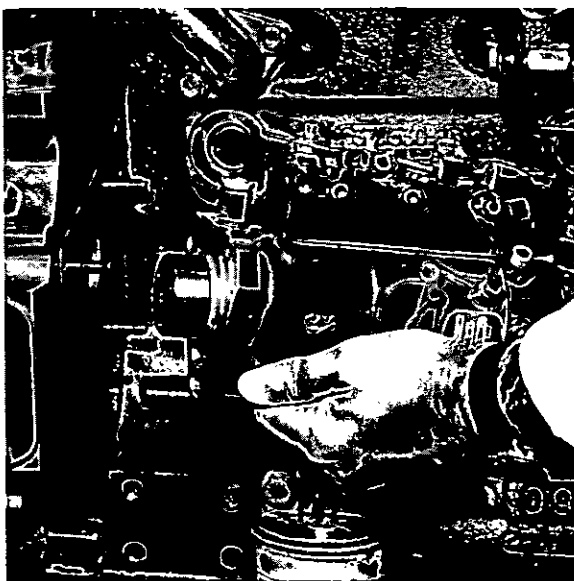

Fig. L.10
6. Remove fuel injection pump (Fig. L.10). If pump gear is still tight on pump drive, support gear as pump is withdrawn to prevent it falling heavily on to gear stop and coming out of mesh. **Do not turn crankshaft with pump removed and gear loose in timing case.**